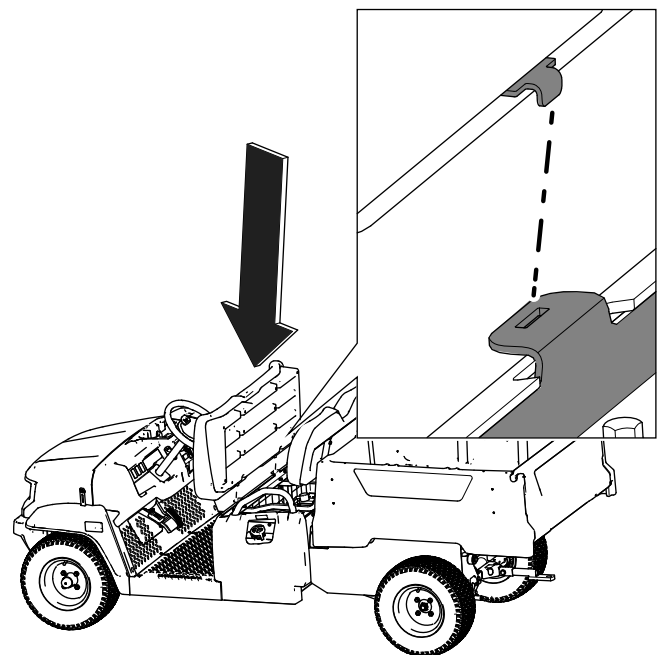

Figure 31
1. Set the bench cushion onto the bracket. (Figure 31).